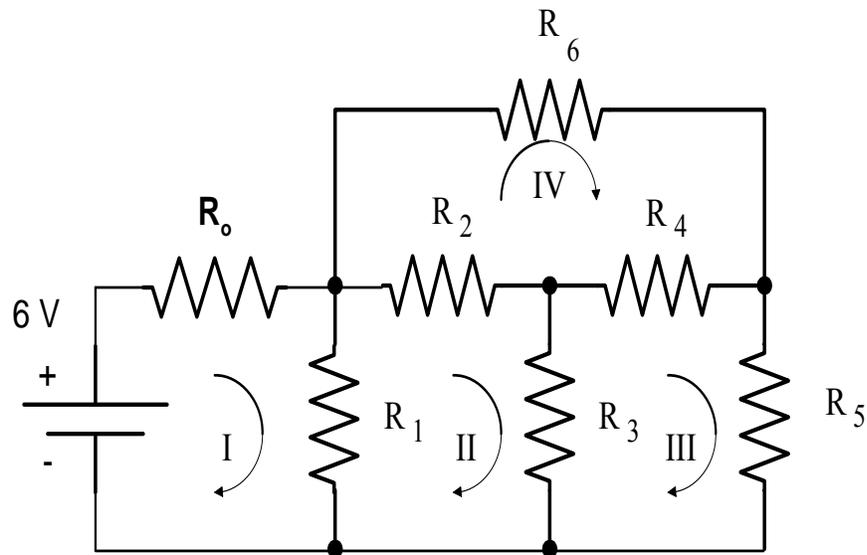

Fig. 2. The experimental setting for the mesh currents.
3. Measure the mesh currents, as shown in Figure 2.